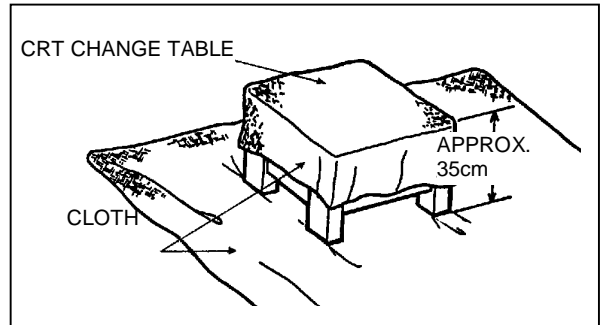

Fig.3
1. Prepare the CRT change table, the CRT change table should also be covered with such soft cloth as shown in Fig.3.
2. While keeping the CRT down surface, mount the TV set on the CRT change table as shown in Fig.3.